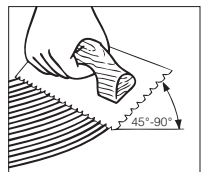

Figure 7
• Hold trowel at a minimum 45° angle (Figure 7) firmly against the subfloor to obtain a 50–60 ft.² (4–5.5 m²) per gallon spread rate. The trowel will leave ridges of adhesive and very little adhesive between the ridges. This will allow you to still see the chalk lines between the ridges and provide the recommended spread rate.